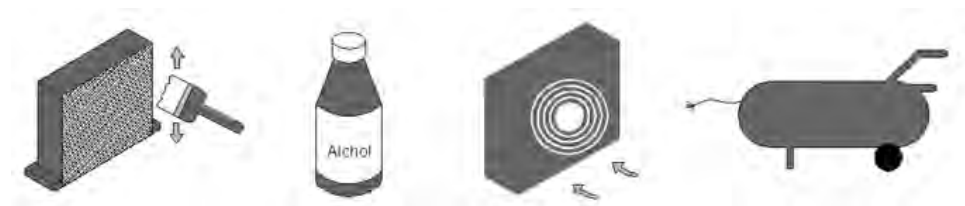

Figure 6 Cleaning of the Condenser
- With the use of an air jet or dry brush with rigid bristles, eliminate, with a vertical movement, (as shown in Fig. 6), the dust and down from the wings.